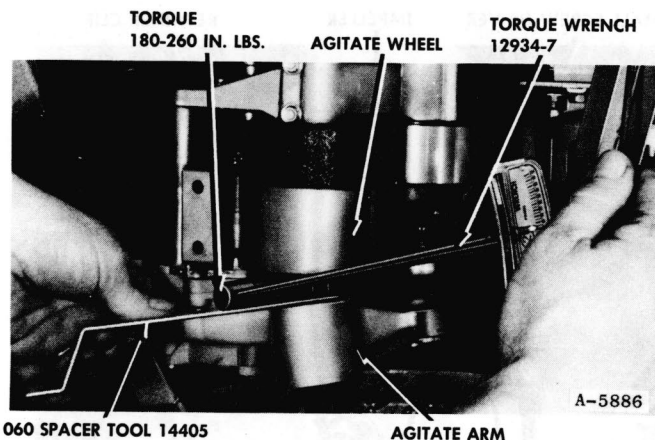

Figure 103
1. Install the agitate arm on the wheel, using the 14405 spacer tool, Figure 103 to obtain the required clearance between the agitate arm shaft bearing and the clamp mount on the agitate wheel.